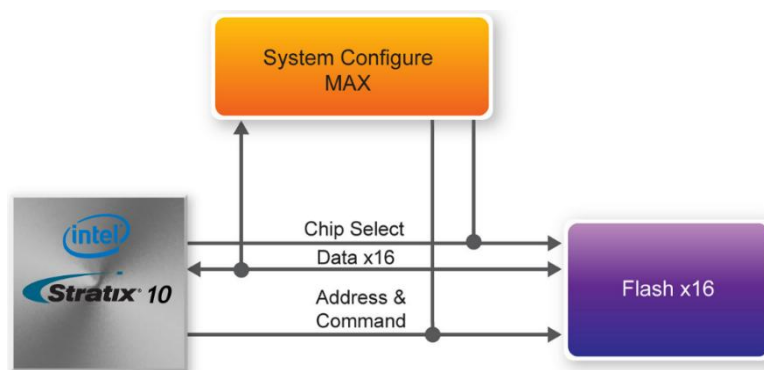

Figure 2-24 Connection between the Flash, Max and Stratix 10 SX FPGA
The flash has a 16-bit data bus allowing for Avalon-ST x8 configuration. This device is part of the shared flash and MAX (FM) bus, which connects to the flash memory and MAX V CPLD (5M2210) System Controller. **Figure 2-24** shows the connections between the Flash, MAX and Stratix 10 SX FPGA.